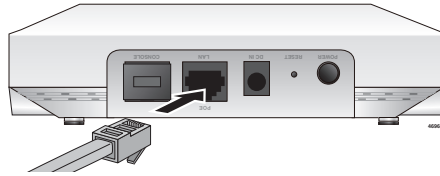

Figure 12. Connect Ethernet Cable to LAN Port
1. Connect the Ethernet cable into the RJ-45 LAN port. Refer to Figure 12. This Ethernet port is capable of receiving PoE power.